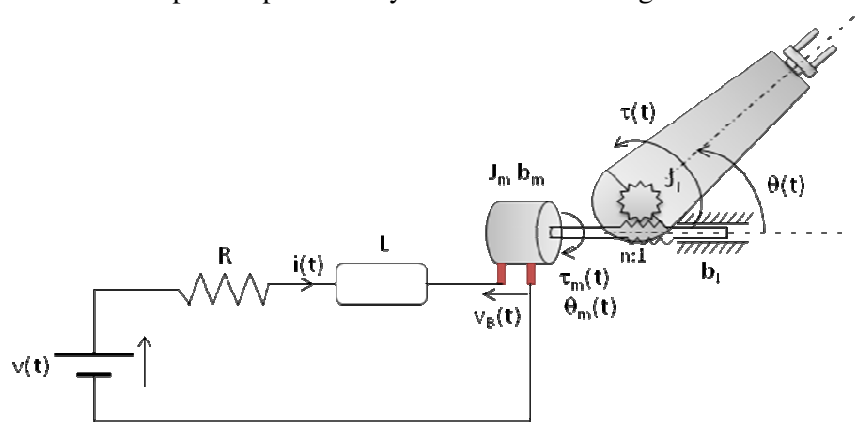

Fig. 3
- 3 a A robot arm open loop control system is shown in Fig. 3. [6]